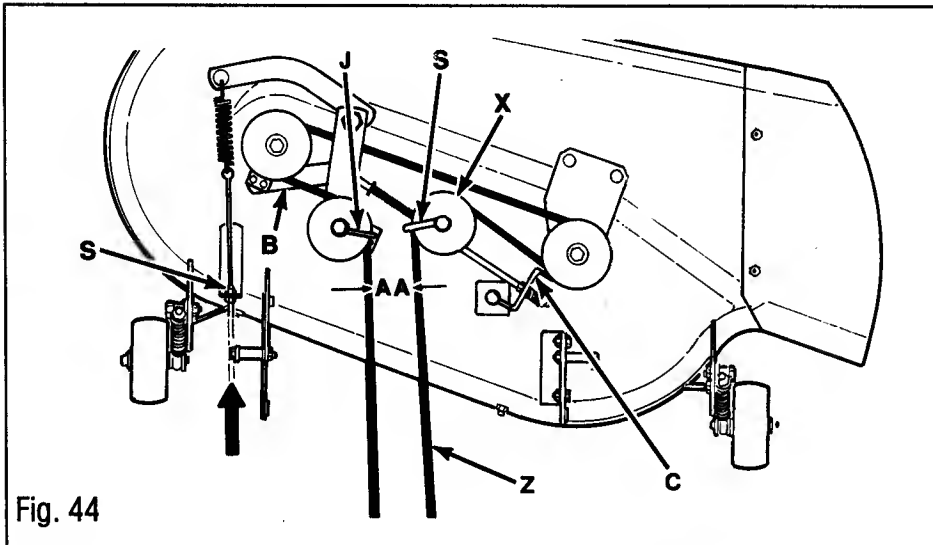
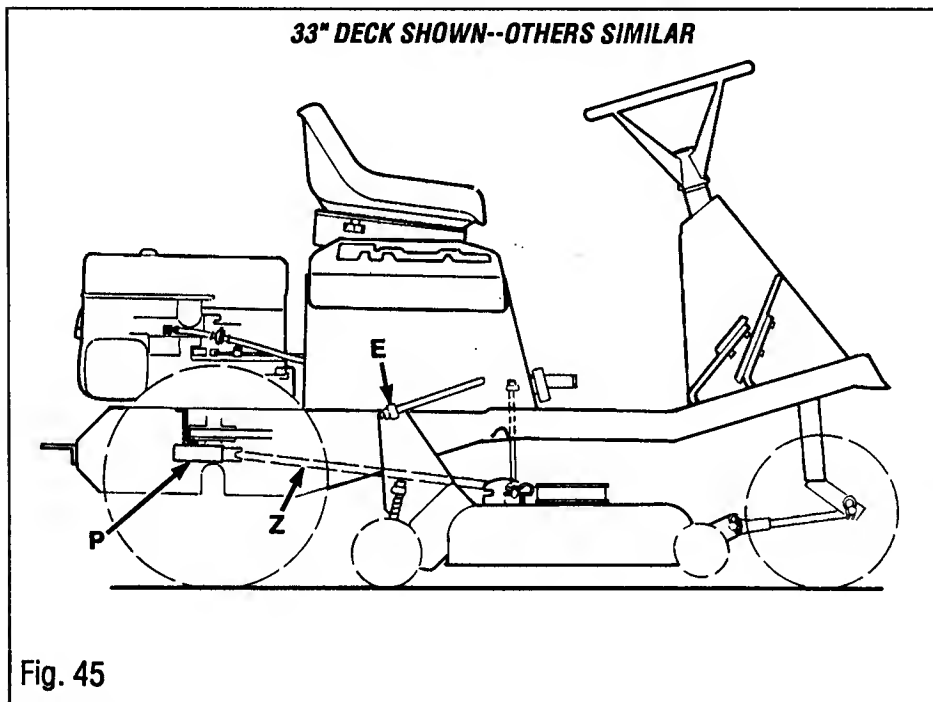
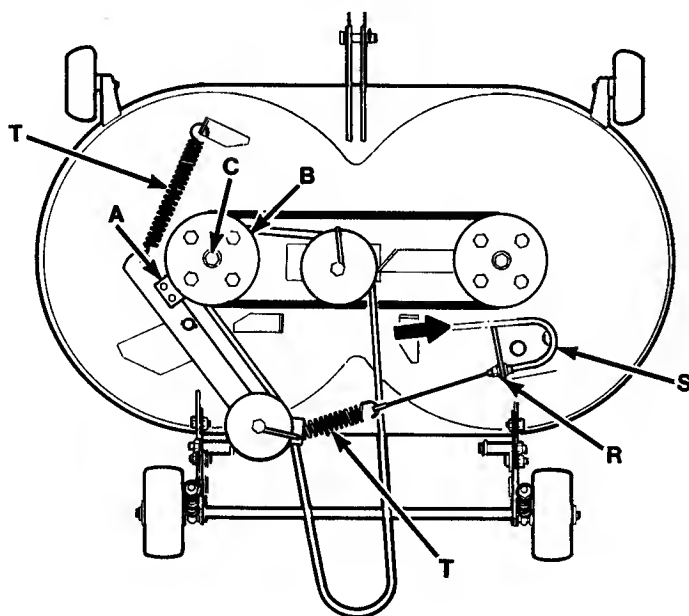
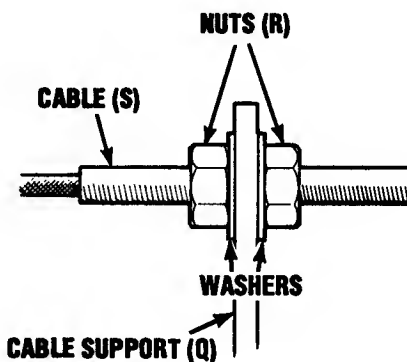

Fig. 44
Fig. 45
Fig. 47
Fig. 48
7. Re-tighten belt guide (H) $1/16"$ (.15 cm) away from drive belt.
8. With the mower in the highest setting, check clearance between belt at point (AA). If there is not at least a 1" (2.5 cm) gap, move mower ahead by adjusting pivot location on lift arms (E, Fig. 45). It may be necessary to adjust rod (A, Fig. 45) to level mower.
9. With mower blade drive engaged, belt guide (Y) should not contact drive belt.
1. Loosen belt guides (A & B Fig. 42 and (P, Fig. 45).
2. Rotate idler arm (C) away from pulley (R). Replace belt (Z) with new belt.
3. Route belt between idler (Q) and belt guide (A). Place guide (A) in approximate position shown and secure.
4. Place new belt into groove of stationary idler (E) and secure belt guide (B) in rear of slot as shown.
5. Place new belt into groove of engine pulley and assemble belt guide (P, Fig. 45) as far forward as possible. Re-tighten guide (P). Check clearance between guide (P) and bolt heads on differential. A gap of $1/8"$ should exist.
7. With the mower in the highest setting, check clearance between belt at point (AA, Fig. 44). If there is not at least a 1" (2.5 cm) gap, move mower ahead by adjusting pivot location on lift arms (E Fig. 45).
3. Replace belt (Z) with new belt. Place new belt around pulleys, between idlers and belt guides (J & S) as shown in Fig. 44.
4. Secure belt guide (S) and idler in rear of slot as shown.
6. Position guide (J) through hole in bottom of plate and secure in place.
7. Place new belt into groove of engine pulley and slide belt guide (P, Fig. 45) as far forward as possible. Re-tighten guide (P). It may be necessary to rotate differential to assemble belt. After assembly, check clearance between guide (P) and bolt heads of differential. A gap of $\frac{1}{8}$ " should exist.
9. With the mower in the highest setting, check clearance between belt at point (AA). If there is not at least a 1" (2.5 cm) gap, relocate idler (X) as far ahead as possible. If more adjustment is needed, move mower ahead by adjusting pivot location on lift arms (E, Fig. 45).
28" Decks Adjust the mower drive cable end (S, Fig. 42 and S, Fig. 48 on the following page) or move mower back by adjusting pivot location on lift arms (E, Fig. 45). Repeat this test until belt does not move. Check mower leveling after adjusting pivot (E).
1. Loosen belt guides (J & S, Fig. 44 and P, Fig. 45).
2. Rotate idler arm (B, Fig. 44) and brake arm (C), and remove belt (Z).
33" & 36" Decks Adjust the mower drive cable end (S, Figs. 42 & 44 and S, Fig. 48 on the following page) or relocate the adjustable pulley (B, Fig. 42 or X, Fig. 44) within its slot on the idler support bracket. If further adjustment is necessary, move mower ahead by adjusting pivot location on lift arms (E, Fig. 45). Repeat this test until belt does not move. Check mower leveling after adjusting pivots (E).
2. If brake pad (A, Fig. 47) does not squarely contact both top and bottom surfaces of pulley (B), re-position pulley (B) as follows:
3. Adjust cable (S, Figs. 48 & 49) at nuts (R, Fig. 47 & 48) so there is a slight slack in spring (T, Fig. 47). *WHEN ADJUSTED, SPRING (T) SHOULD NOT BE UNDER TENSION*
4. If blade still does not stop within 5 seconds after the mower drive has been disengaged, replace brake pad (A, Fig. 47).
3. Adjust cable (S, Figs. 48 & 49) at nuts (R, Fig. 48) so there is a slight slack in spring (T, Fig. 44). *WHEN ADJUSTED, SPRING (T) SHOULD NOT BE UNDER TENSION*